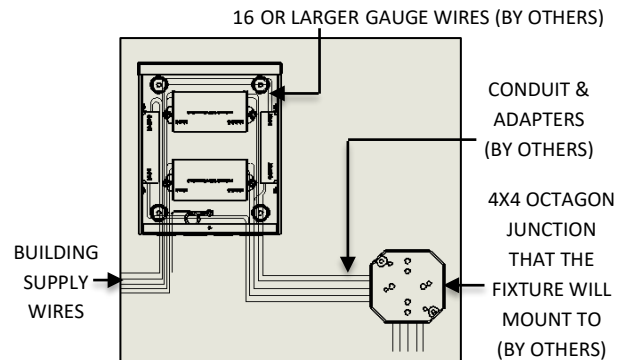

FIG. 12 – FOUR DRIVER REMOTE BOX SETUP FOR 60" & 72" SERIES
- Dimming wires as shown on the driver in FIG. 12.